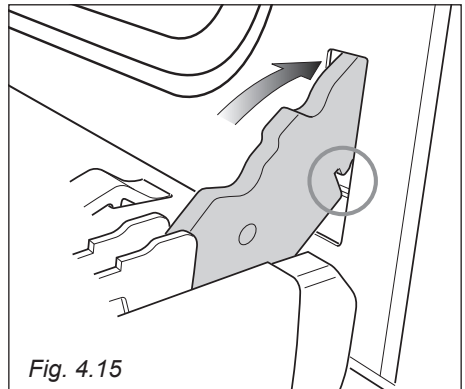

Fig. 4.15
- Insert the hinge tongues into the slots, making sure that the groove drops into place as shown in the fig. 4.15.